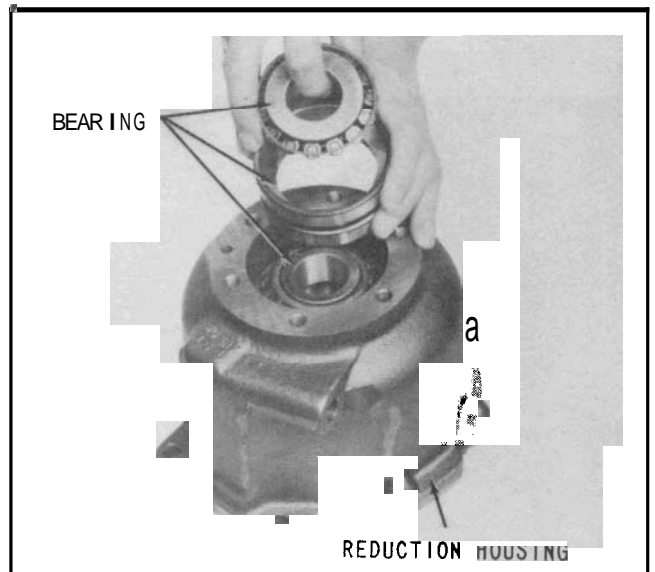

Fig. 23 Assembling Bearing into the Reduction Housing
22. Install the first row of tapered bearing so that inner ring rests against the shoulder in the reduction housing. The relationship of the bearing parts are shown in (Fig. 23).